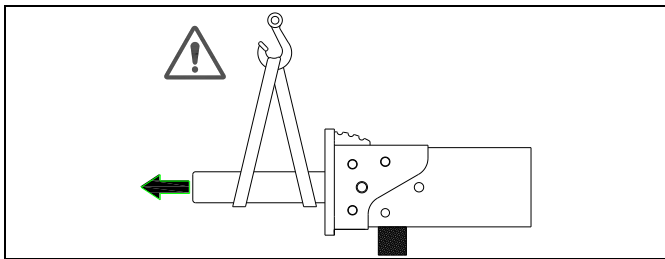

Fig. 10-5 Support Weight of Tool & Remove
8. Remove Tool from Front Head [Fig. 10-5].